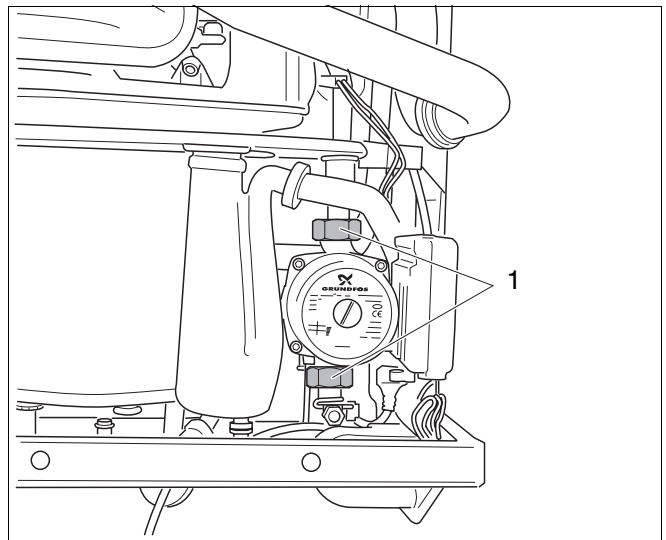

fig. 80 Replacing the pump
- Loosen both swivel nuts (→ fig. 80, item 1)